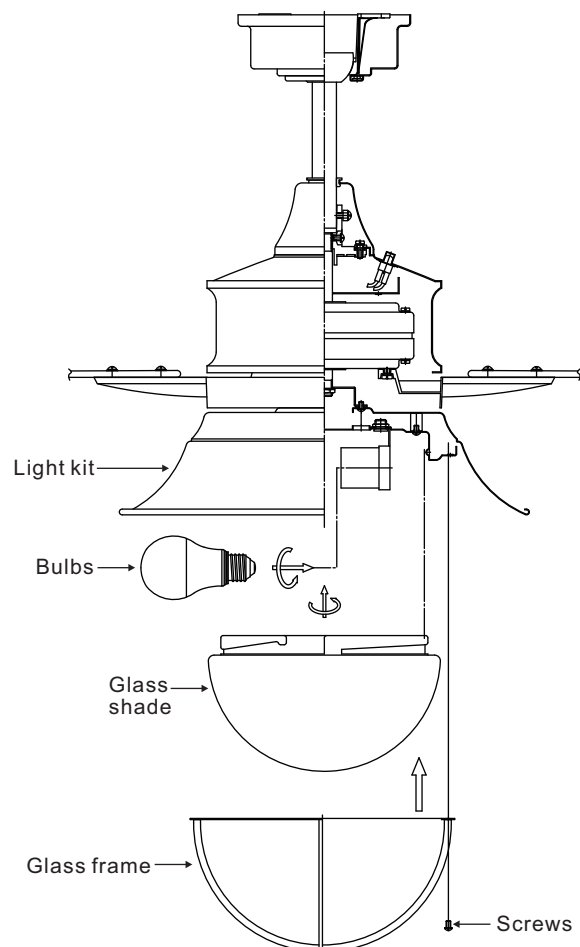

Figure 16
2. Raise glass shade up against the light kit and secure it to fan by turning glass clockwise until snug. **Do not overtighten.** (Fig. 16)
3. Install the glass frame to the light kit with 4 screws provided. (Fig. 16)